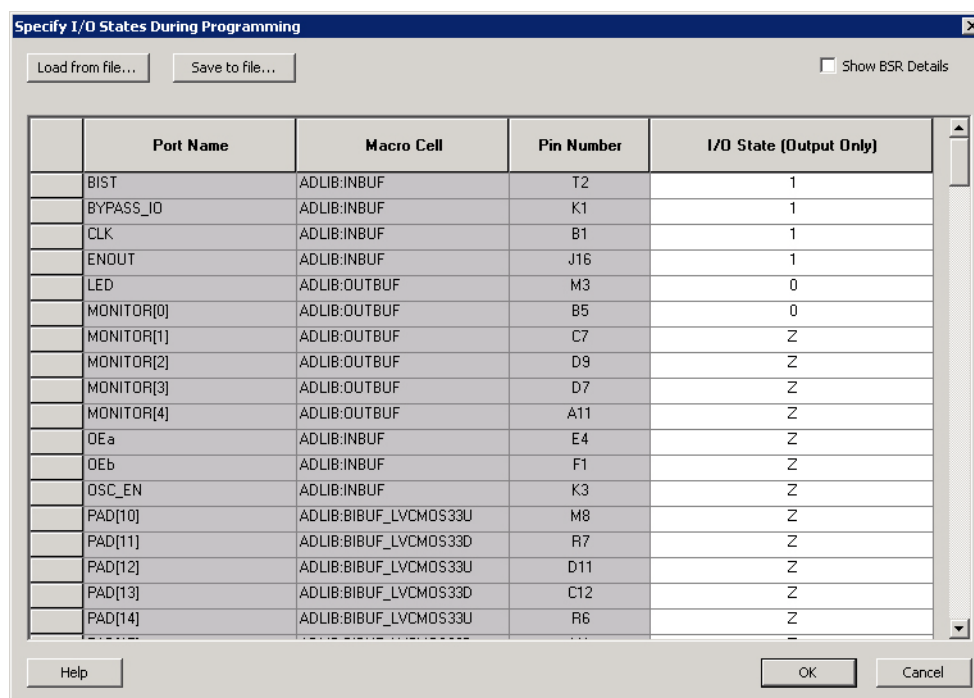

Figure 1-3 • I/O States During Programming Window
4. Sort the pins as desired by clicking any of the column headers to sort the entries by that header. Select the I/Os you wish to modify (Figure 1-3).